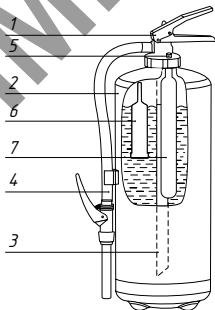

Figure 1
4.1. Fire extinguisher design is shown in the Figure 1. The Fire extinguisher consists of a body 2 with LRD 1 screwed in its neck (M74x2 thread) with a siphon tube 3. A sprayer with the crossover 4 is connected to the outlet of the LRD.